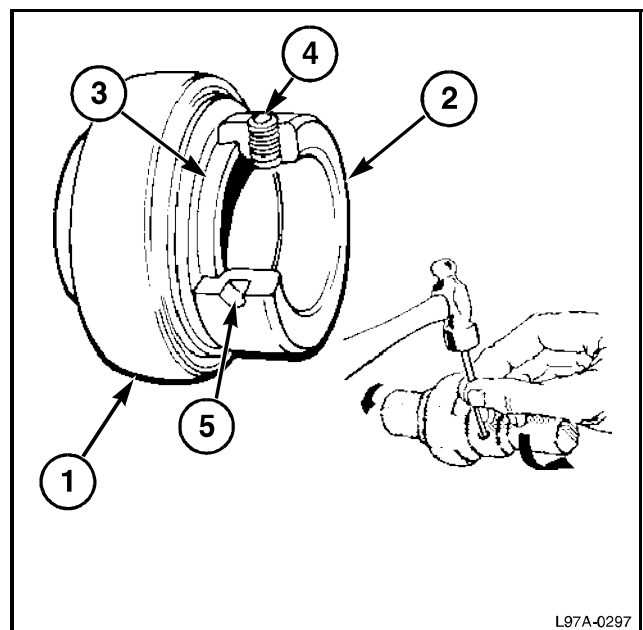

FIG. 14
FIG. 14: The bearing (1) is held in position on the shaft by a locking collar (2). The locking collar has an eccentric counterbore. This counterbore engages the eccentric end of the bearing inner race (3) when the bearing is assembled. The locking collar is rotated on the bearing to lock the assembly on the shaft. The assembly grips the shaft tightly with a positive locking action that increases with use. A set screw (4) in the locking collar applies additional locking pressure. A drift pin hole (5) is used to rotate the locking collar.